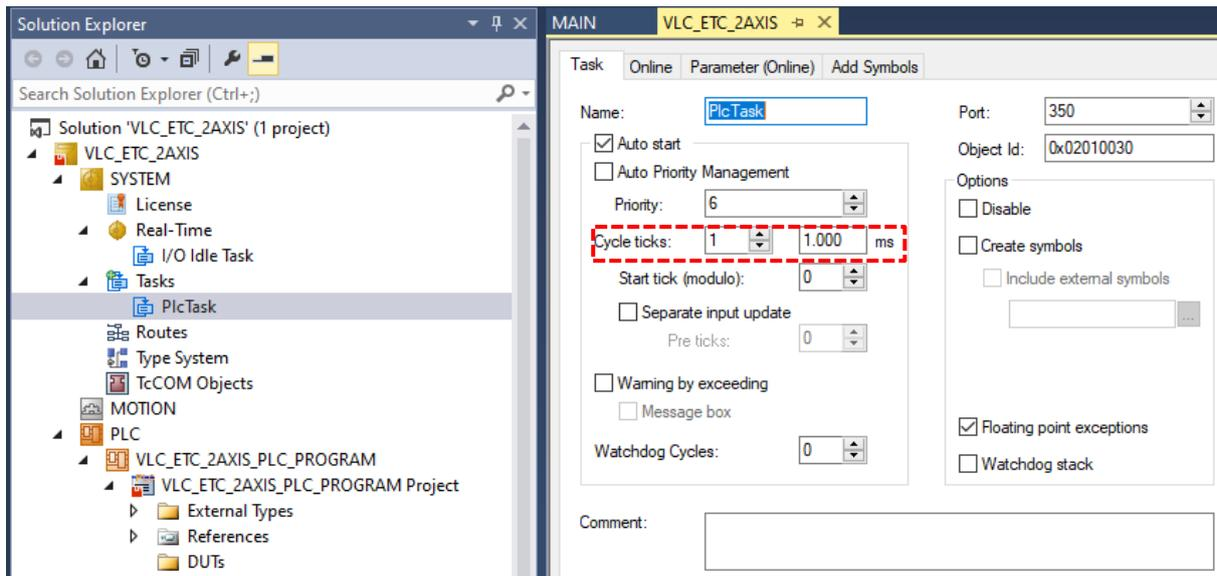

Figure 3.28.
- Select 'Plc Task' as shown in Figure 3.28, change the cycle ticks to 1.